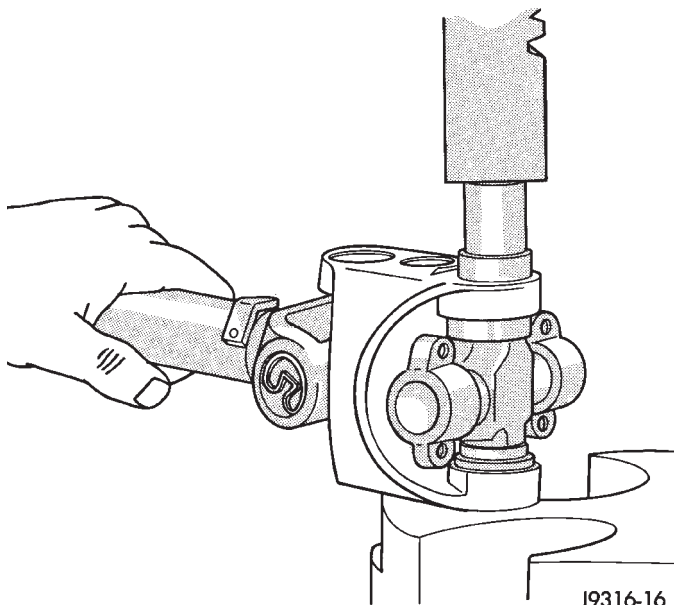

Fig. 31 Press In Bearing Cap
(11) Press the remaining two bearing caps into place and install snap rings (Fig. 31).